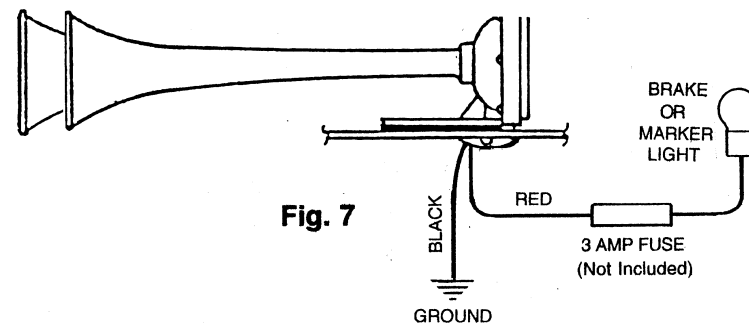

Fig. 7
10. Connect the LED’s red wire to the wire that powers the vehicle’s brake light, a 3-ampere fuse should be installed as shown in Fig. 7.
11. Ground the black wire to any metal body bolt. Be sure to clean the metal surface around bolt to be free from paint and rust to insure a good ground connection. If a longer wire is needed to reach the vehicle’s power source, lengthen the horn’s LED wire using the same twenty (20) gauge wire or heavier.
12. Connect the LED’s red wire to the wire that powers the vehicle’s marker light, a 3-ampere fuse should be installed as shown in Fig. 7.
13. Ground the black wire to any metal body bolt. Be sure to clean the metal surface around bolt to be free from paint and rust to insure a good ground connection. If a longer wire is needed to reach the vehicle’s power source, lengthen the horn’s LED wire using the same twenty (20) gauge wire or heavier.